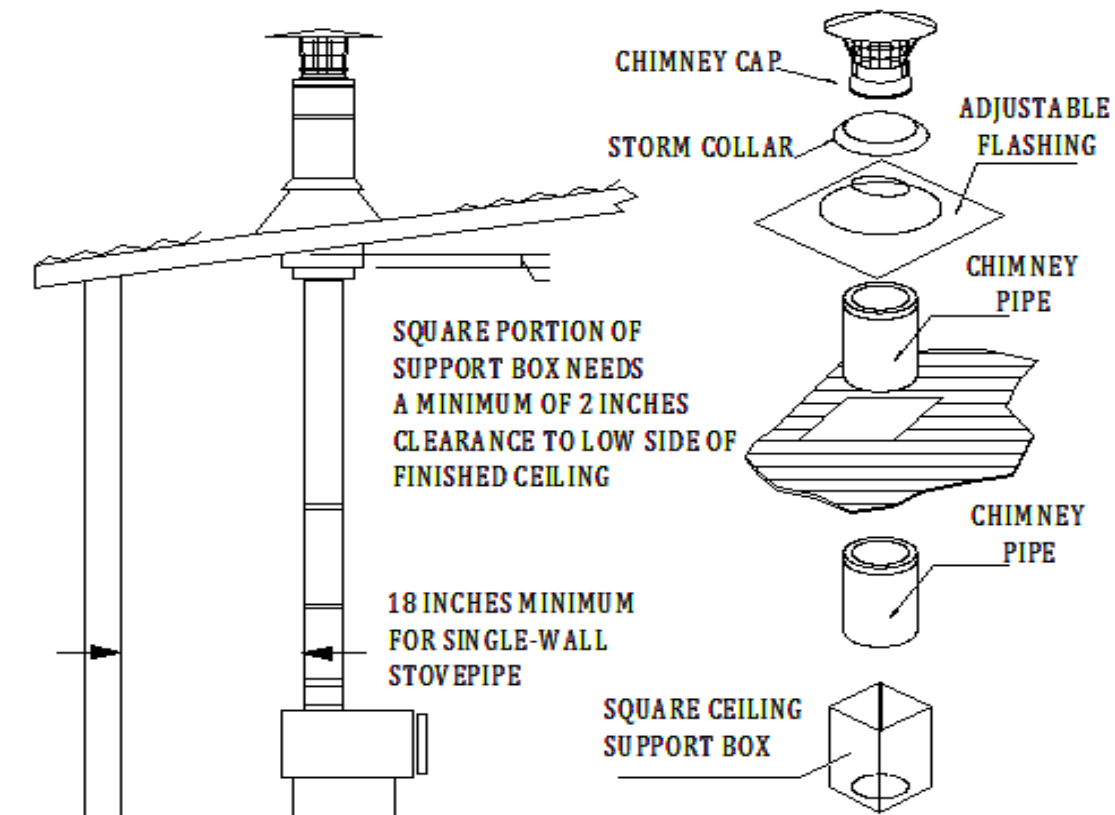
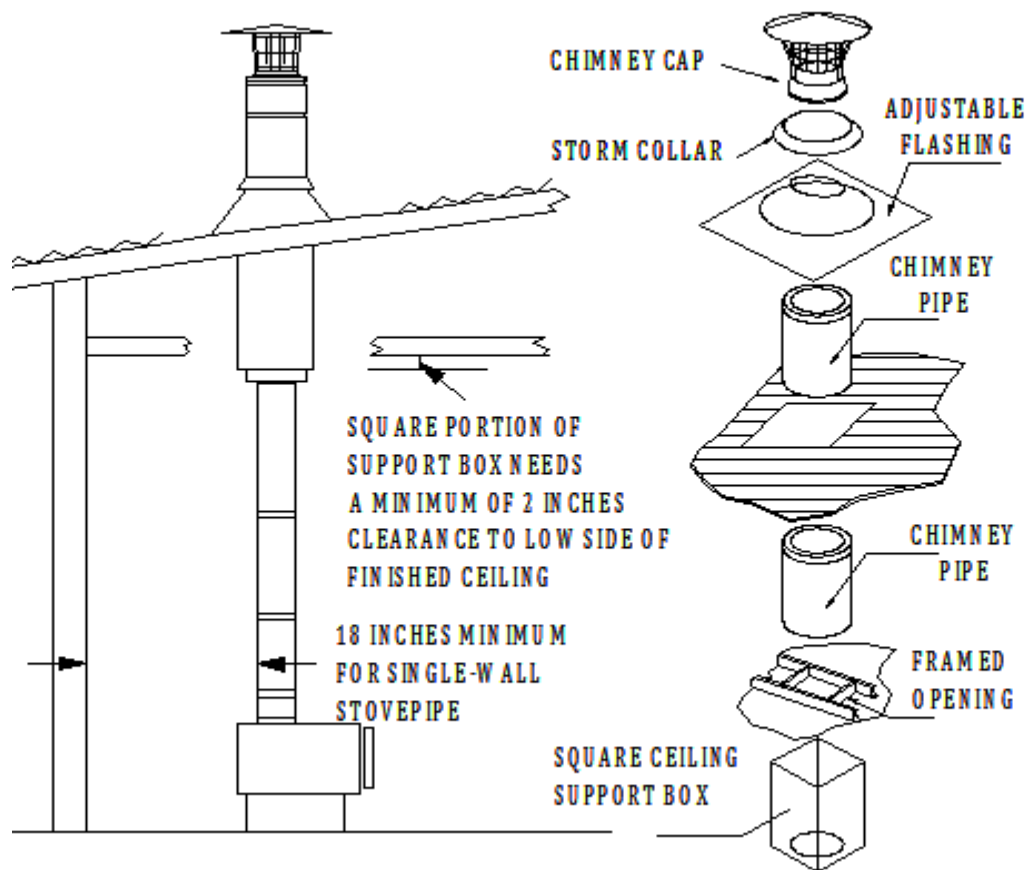

Fig 16
Fig 17
(1) For a roof jack installation, make sure that the square box portion of the Support Box can extend at least 2" below the low side of the finished ceiling (Fig 16). The roof jacket must remain level, and the top edge of the box must cover the edge of the roof's decking material. Mobile home chimney installations are roof supported. Do not seal openings in flashing.
**2. Cut Openings:** Cut a roof opening in your desired location, just as in a Ceiling Supported Installation (Steps 1 through 5, page 4 – 6). If a separate ceiling and roof exists, as shown in Figure 17 (Low Attic), first cut and frame a ceiling opening as described in Ceiling-Supported Installations (Step 2). Refer to Table 1 for clearance and framing specifications. If it is desired to install through a cathedral ceiling (Fig 16), then the hole is cut in the roof.